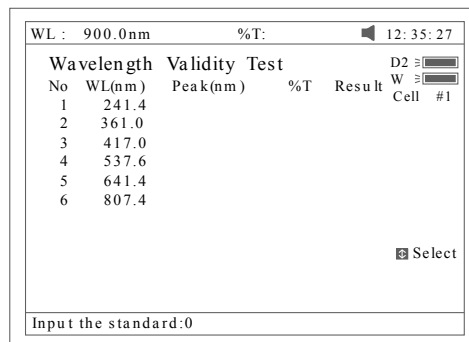

Fig 96
1. Press **[F1]** to set the standard peak. Press **[ENTER]** to edit and input wavelength by pressing the numeric keypad (Fig 96). **[ESC/STOP]** to finish inputting and exit.